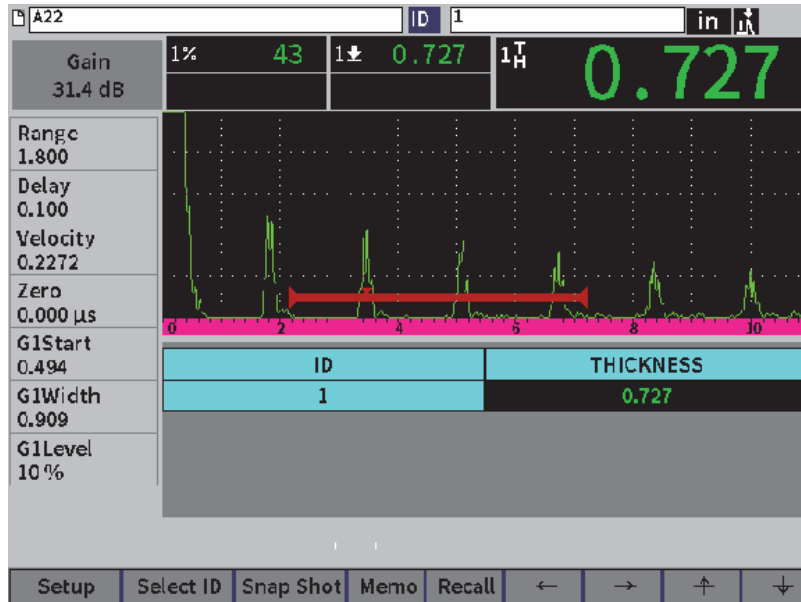

Figure 9-27 Grid controls in a saved file
5. Press the Tab key to move to the **Select ID** button to highlight and select a specific ID for viewing (see Figure 9-27 on page 135).